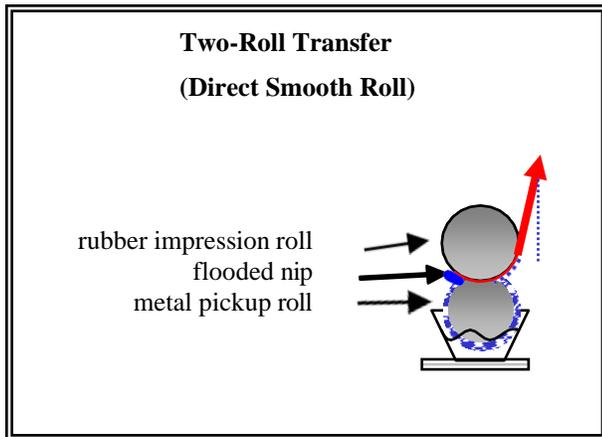
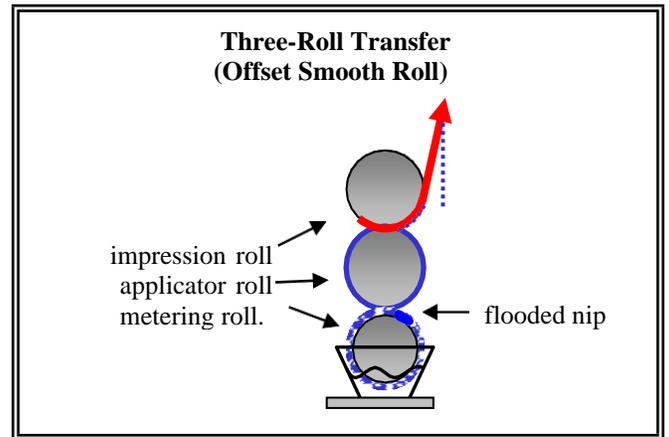

Figure 1
Figure 2
2. Reduce pickup roll (direct- *Figure 1*) or metering roll (offset- *Figure 2*) speed relative to line speed.